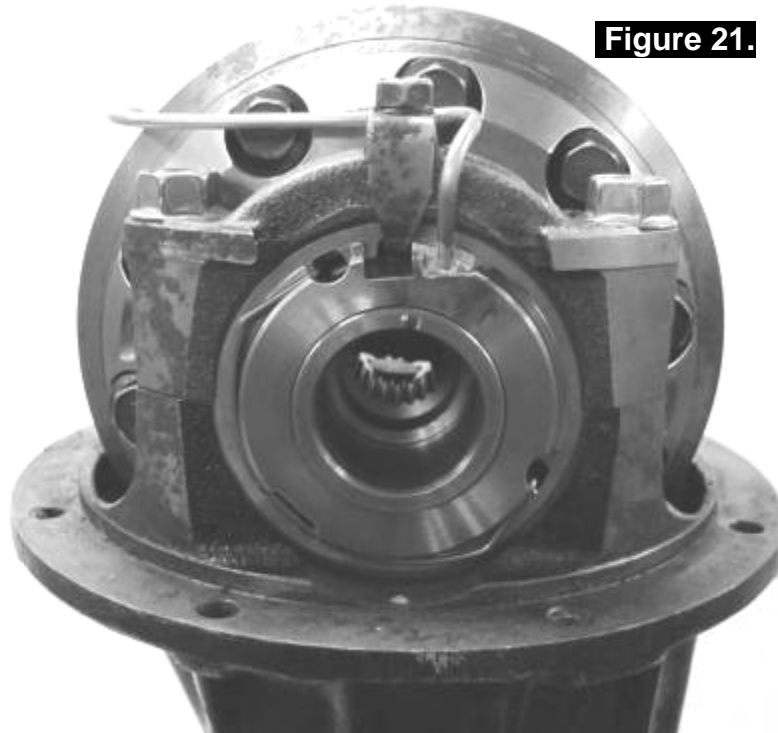

Figure 21.
4.1.1 Connection to an ARB Air Compressor (Fig.21.)